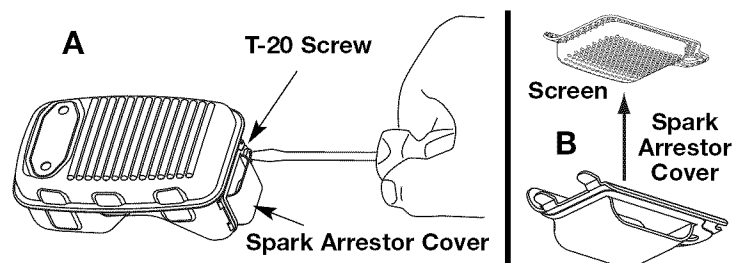

Fig. 28
3. With a flat blade screwdriver or Torx T-20 bit, remove the screw attaching the spark arrestor cover to the muffler (Fig. 28, A).
5. Remove the spark arrestor screen from the spark arrestor cover (Fig. 28, B).